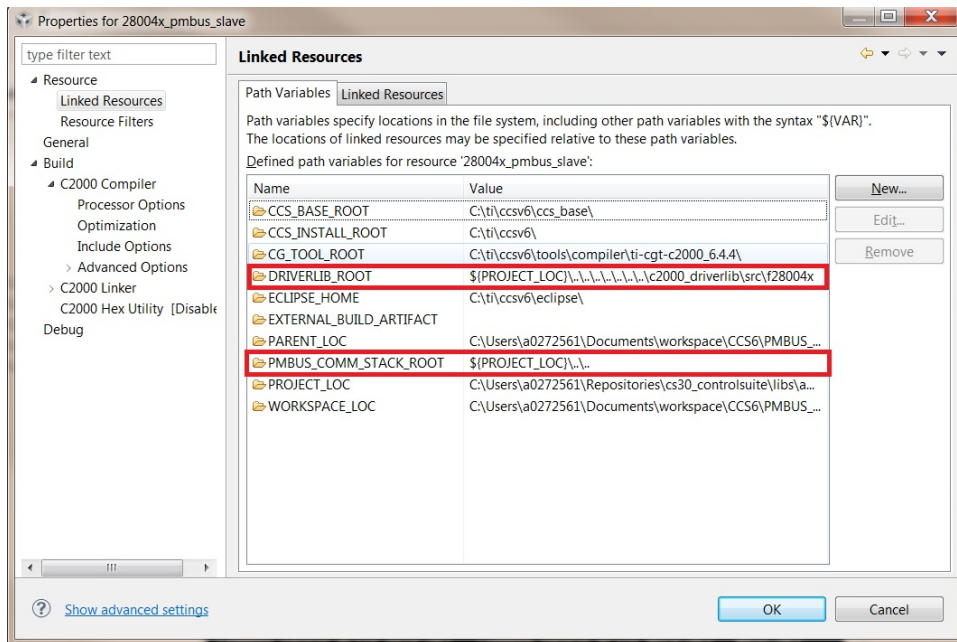

Figure 4.2: Creating a new build variable
1. Go to the **Project Properties->Build->Variables(Tab)** and add a new variable (see Fig. 4.2), **DRIVERLIB_ROOT**, and set its path to the root directory of the F28004x driver library. Set up another variable, **PMBUS_COMM_STACK_ROOT** to point to the v1_00_00_00_B folder of the PMBus Communications Stack Library.